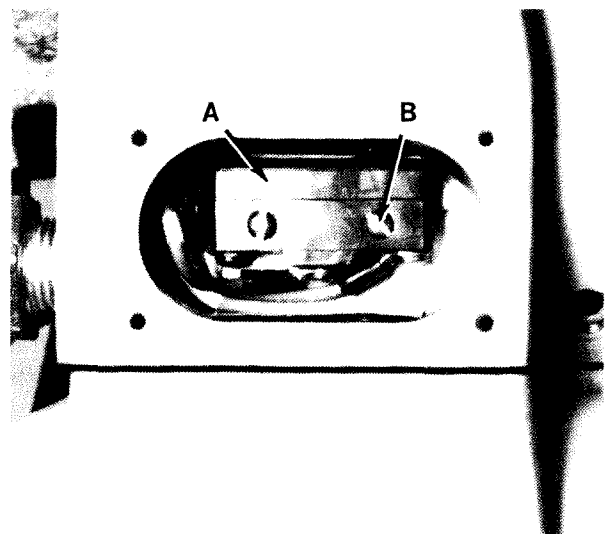

Figure 4.13 - Spindle Lock Pin Limit Switch
29. Remove two screws "B" and pull limit switch "A", Figure 4.13, out of the headstock to gain access to the wire terminals on the limit switch.
The electrical interlock between lock pin "H", Figure 4.2, and the main drive motor is controlled by limit switch "A", Figure 4.13 . The limit switch is located under name plate "M" and is actuated by a plunger moved by lock pin "H", Figure 4.2 .
3. Remove two screws "B" and pull limit switch "A", Figure 4.13, out of the headstock to gain access to the wire terminals on the limit switch.